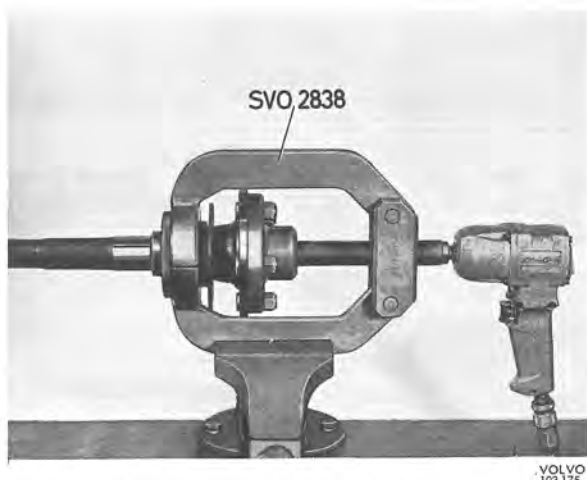

Fig. 4-134. Removing drive shaft bearing
4. Secure press tool SVO 2838 in a vice. Secure the drive shaft to the spindle plate. Screw in the spindle so that the tool arms can be placed against the bearing, see Fig. 4-134. Screw out the spindle and press off the bearing and lock ring. Remove the oil seal.